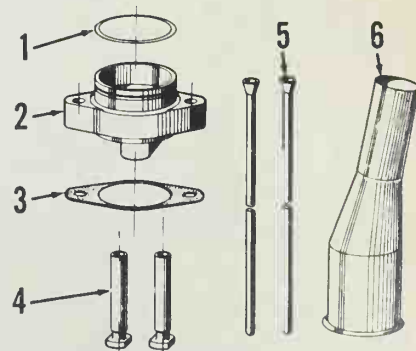
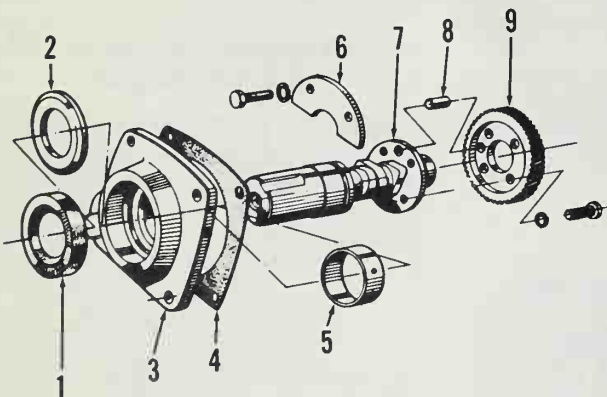
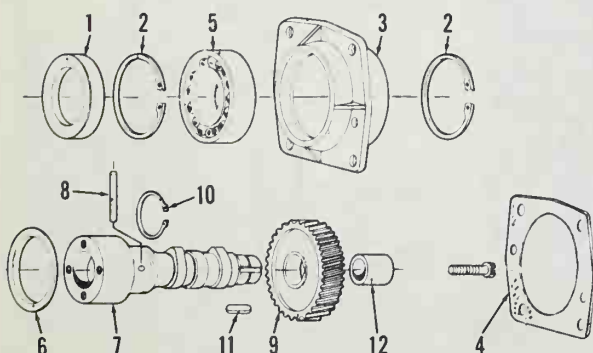

Fig. KR1-9—Exploded view of tappets and push rods.
Fig. KR1-10—Exploded view of bushing-supported camshaft used on some engines.
Fig. KR1-11—Exploded view of bearing-supported camshaft used on some models.
R&R AND OVERHAUL. To remove push rods and tappets, remove cylinder head and detach push rod tube (6—Fig. KR1-9). Unscrew retaining nuts and remove tappet guide (2) and tappets from crankcase. Remove fuel injection
pump. Unscrew camshaft bearing housing (3—Fig. KR1-10 and KR1-11) screws and remove camshaft assembly. If bearing housing will not remove easily, jack screws may be threaded into holes provided in housing to push housing free.
Two different camshafts are used and are not interchangeable. The camshaft shown in Fig. KR1-10 is supported at outer end by bushing (5) while the camshaft shown in Fig. KR1-11 is supported at outer end by ball bearing (5). To disassemble bushing supported camshaft assembly, remove thrust plate (6—Fig. KR1-10) and slide camshaft out of housing (3). Detach gear (9) from camshaft. Bushing (5) may be renewed if necessary. To disassemble bearing supported camshaft, unscrew Allen screw and remove steel sleeve (12—Fig. KR1-11). Pull gear (9) off shaft, detach snap ring (10) and slide shaft out of bearing (5). Remove snap rings (2) and remove bearing (5) from housing (3).
Inspect components and renew if required. Inner end of camshaft (7—Fig. KR1-10) rides in crankcase bushing while steel sleeve (12—Fig. KR1-11) attached to camshaft (7) rides in crankcase bushing. Clearance between crankcase bushing and camshaft (7—Fig. KR1-10) journal or camshaft sleeve (12—Fig. KR1-11) should not exceed 0.20 mm. Renew tappet guide (2—Fig. KR1-9) if tappet bores are out-of-round more than 0.05 mm.